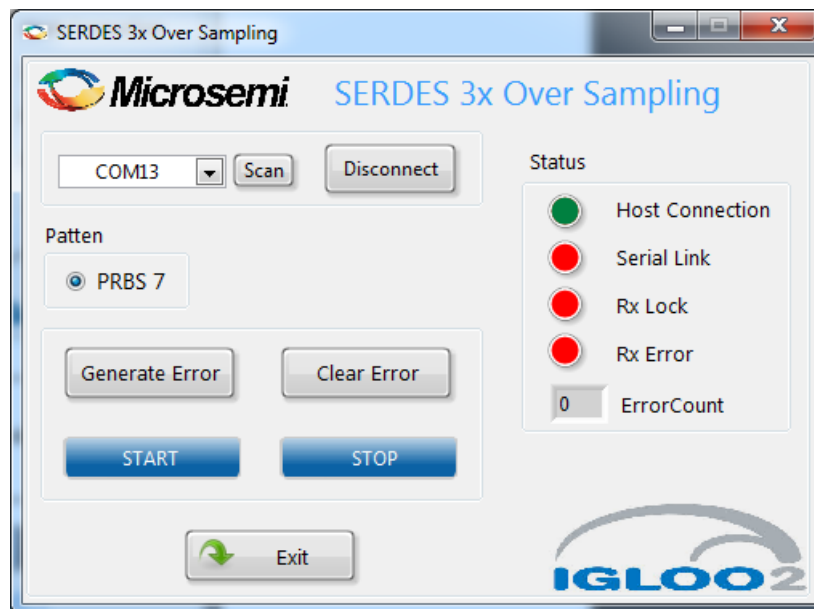

Figure 16 • Connected Oversampling Window
- Click **Connect** to connect the host PC to the hardware through the selected port. After the host PC is connected, the Oversampling window is displayed as shown in Figure 16.